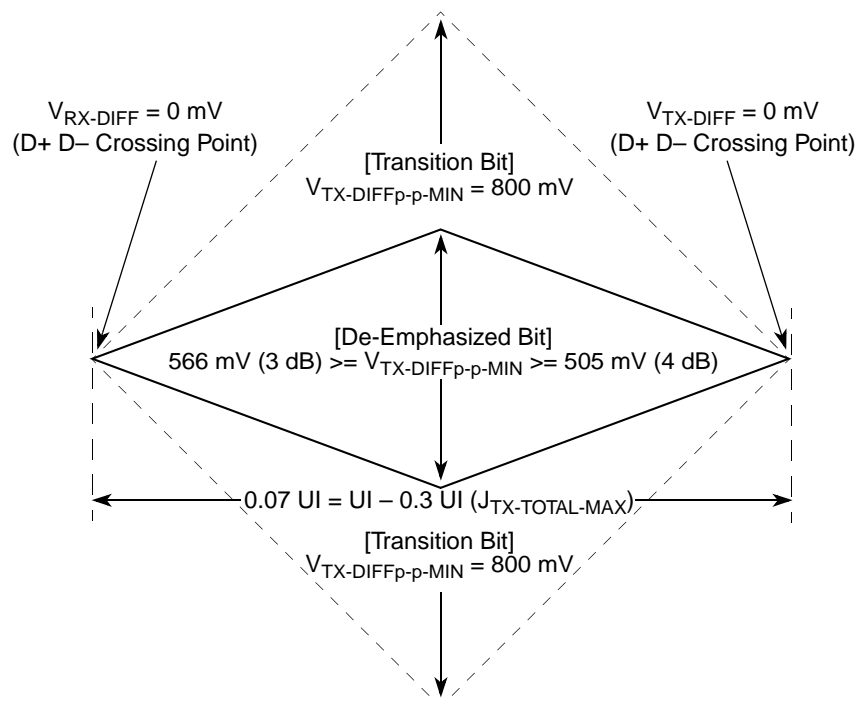
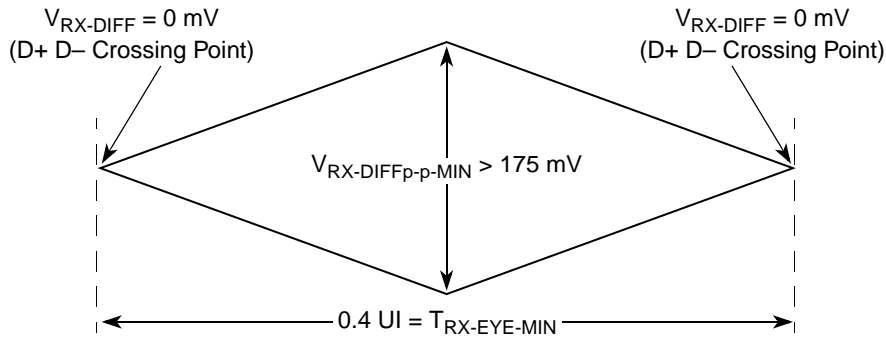
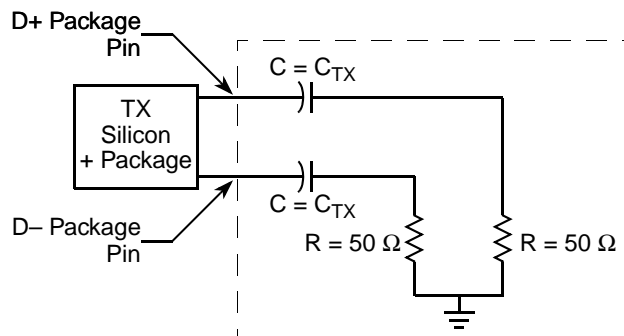

Figure 56. Minimum Transmitter Timing and Voltage Output Compliance Specifications
Figure 57. Minimum Receiver Eye Timing and Voltage Compliance Specification
Figure 58. Compliance Test/Measurement Load
2. Specified at the measurement point into a timing and voltage compliance test load as shown in Figure 58 and measured over any 250 consecutive TX UIs. (Also refer to the transmitter compliance eye diagram shown in Figure 56.)
4. The transmitter input impedance shall result in a differential return loss greater than or equal to 12 dB and a common mode return loss greater than or equal to 6 dB over a frequency range of 50 MHz to 1.25 GHz. This input impedance requirement applies to all valid input levels. The reference impedance for return loss measurements is 50 Ω to ground for both the D+ and D- line (that is, as measured by a vector network analyzer with 50- Ω probes—see Figure 58.) Note that the series capacitors C_{TX} is optional for the return loss measurement.
5. Measured between 20%–80% at transmitter package pins into a test load as shown in Figure 58 for both $V_{\text{TX-D+}}$ and $V_{\text{TX-D-}}$.
The TX eye diagram in Figure 56 is specified using the passive compliance/test measurement load (see Figure 58) in place of any real PCI Express interconnect +RX component.
2. Specified at the measurement point and measured over any 250 consecutive UIs. The test load in Figure 58 should be used as the RX device when taking measurements (also refer to the receiver compliance eye diagram shown in Figure 57). If the clocks to the RX and TX are not derived from the same reference clock, the TX UI recovered from 3500 consecutive UI must be used as a reference for the eye diagram.
4. The receiver input impedance shall result in a differential return loss greater than or equal to 15 dB with the D+ line biased to 300 mV and the D– line biased to –300 mV and a common mode return loss greater than or equal to 6 dB (no bias required) over a frequency range of 50 MHz to 1.25 GHz. This input impedance requirement applies to all valid input levels. The reference impedance for return loss measurements for is 50 Ω to ground for both the D+ and D– line (that is, as measured by a vector network analyzer with 50- Ω probes, see Figure 58). Note that the series capacitors CTX is optional for the return loss measurement.
The RX eye diagram in Figure 57 is specified using the passive compliance/test measurement load (see Figure 58) in place of any real PCI Express RX component.
In general, the minimum receiver eye diagram measured with the compliance/test measurement load (see Figure 58) will be larger than the minimum receiver eye diagram measured over a range of systems at the input receiver of any real PCI Express component. The degraded eye diagram at the input receiver is due to traces internal to the package as well as silicon parasitic characteristics which cause the real PCI Express component to vary in impedance from the compliance/test measurement load. The input receiver eye diagram is implementation specific and is not specified. RX component designer should provide additional margin to adequately compensate for the degraded minimum receiver eye diagram (shown in Figure 57) expected at the input receiver based on some adequate combination of system simulations and the return loss measured looking into the RX package and silicon. The RX eye diagram must be aligned in time using the jitter median to locate the center of the eye diagram.
The reference impedance for return loss measurements is 50 Ω to ground for both the D+ and D– line (that is, as measured by a vector network analyzer with 50-Ω probes, see Figure 57). Note that the series capacitors, CTX, are optional for the return loss measurement.
The AC timing and voltage parameters must be verified at the measurement point, as specified within 0.2 inches of the package pins, into a test/measurement load shown in Figure 58.